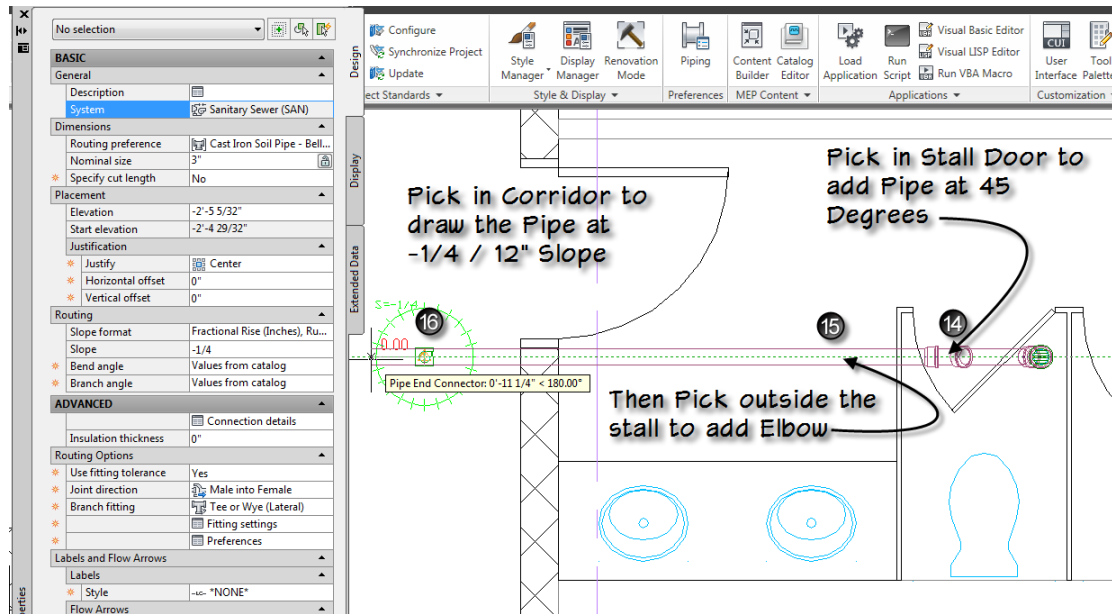

Figure 6.61
14. Move the mouse horizontally to the left and then click a point in the middle of the Stall Door (see Figure 6.61).
16. Move the mouse horizontally to the left and then click a point just beyond the Stall to add a 45-degree elbow (see Figure 6.61).